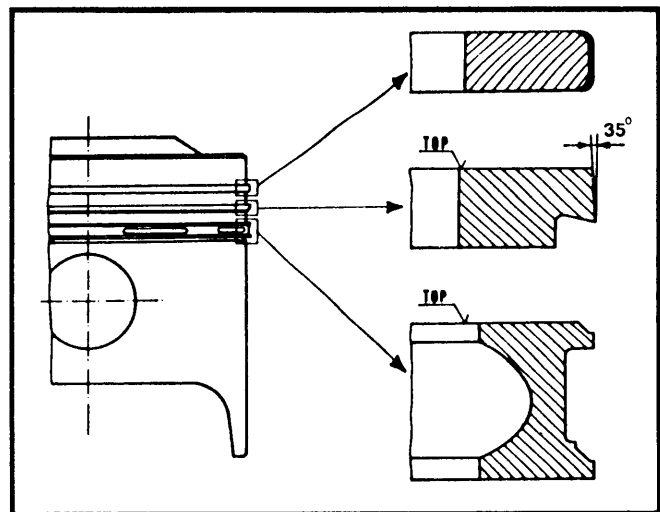

Fig. 10 Installing Rings on Pistons
5) Fit the rings to the piston using pliers (88012202), making sure all "Top" markings are facing upwards and gaps are staggered 120° from each other. See Fig. 10.